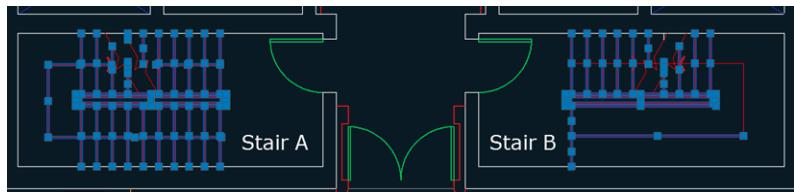

FIGURE 4.9 Selecting similar objects en masse
11. Select one of the vertical tread lines in Stair A by clicking on it. Right-click, and choose **Select Similar** from the context menu that appears. All lines on the same layer are selected; you might have to zoom out to see both stairs (see Figure 4.9). Other object types on the same layer remain unselected because they were not similar enough. Press **Esc**.